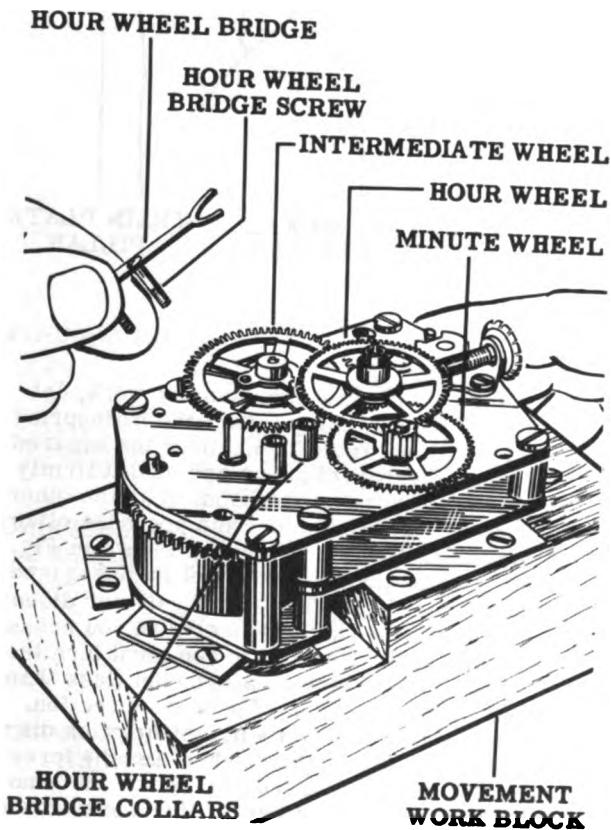

Figure 53
- Place the movement dial side up on the movement work block, Tool No. 1C. Remove the minute wheel washer by spreading the slot with a screwdriver. Unscrew the two screws holding down the hour wheel bridge and lift off the hour wheel bridge as shown in Fig. 53. Remove the two hour wheel bridge collars.
- Loosen the friction spring screw and lift off the friction spring. Lift off the intermediate wheel with its spring. See Figs. 53 and 54.